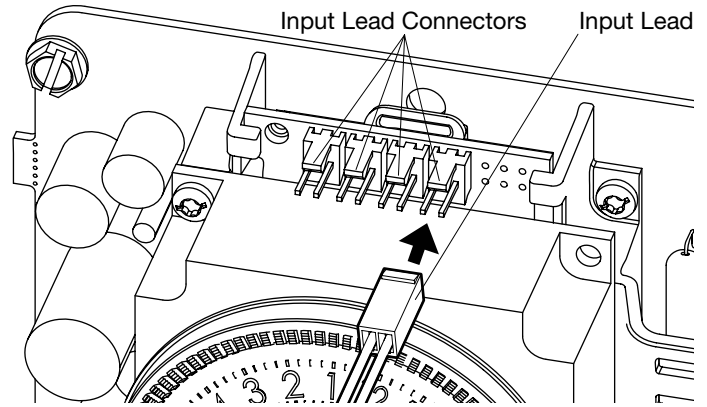

FIG. 7 Attach the Input Lead
2. Connect the input lead to the DDT40 control as shown in FIG. 7. The input lead may be inserted into any of the four connectors on the DDT40 control.